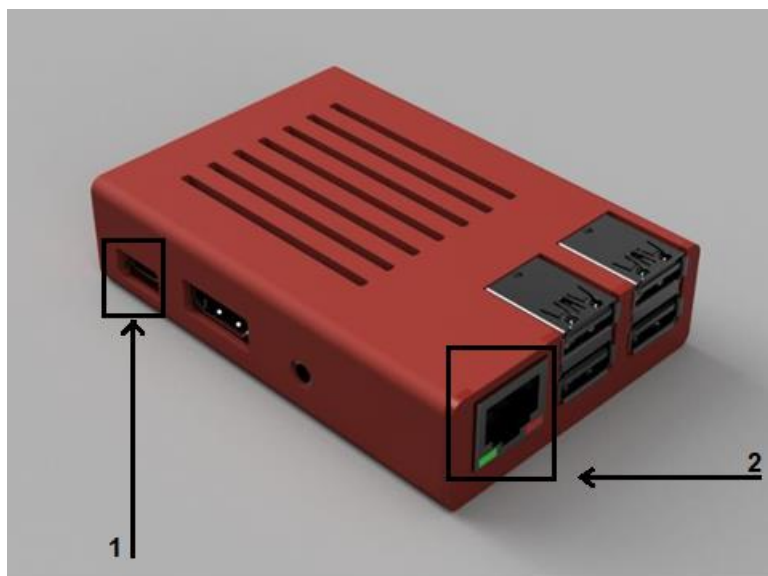

Figure 8 Installation of the Central HUB
To install the services of the Feeder Device and the Central HUB, as the first step, the user must connect the **Ethernet cable (2)** to the **Central HUB** and then connect the **Power cable (1)** to the **Central HUB**, Fig.8.